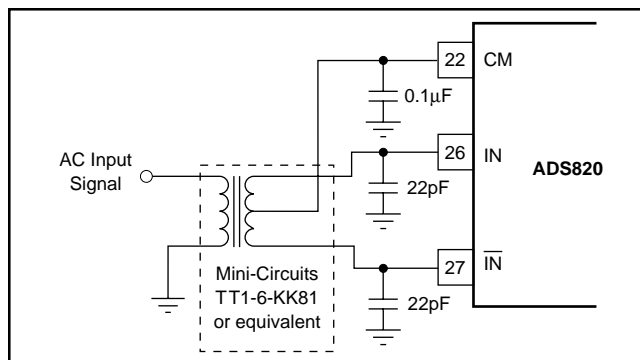

FIGURE 4. AC-Coupled Single-Ended to Differential Drive Circuit Using a Transformer.
The ADS820 has a differential input with a common mode of +2.25V. For AC-coupled applications, the simplest way to create this differential input is to drive the primary winding of a transformer with a single-ended input. A differential output is created on the secondary if the center tap is tied to the (CM) voltage of +2.25V, as per Figure 4. This transformer-coupled input arrangement provides good high frequency